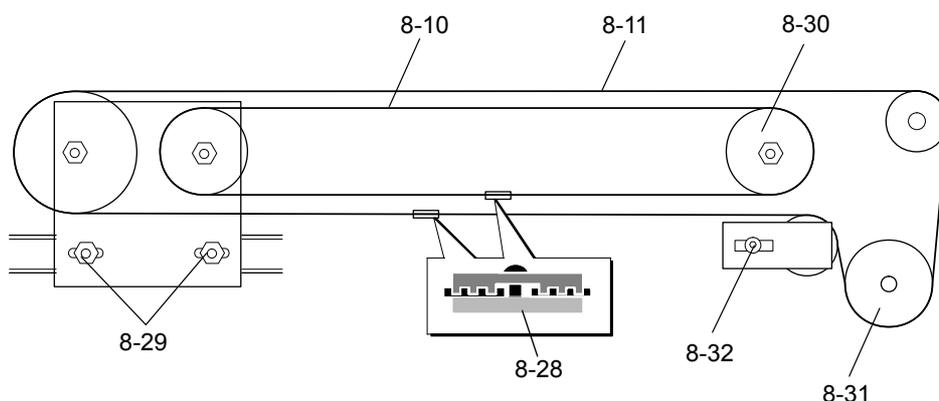

Figure 6-59 Belt removal, view from the right side of the LiHa 1
- Lead the belt according to Figure 6-59 over the pulleys.